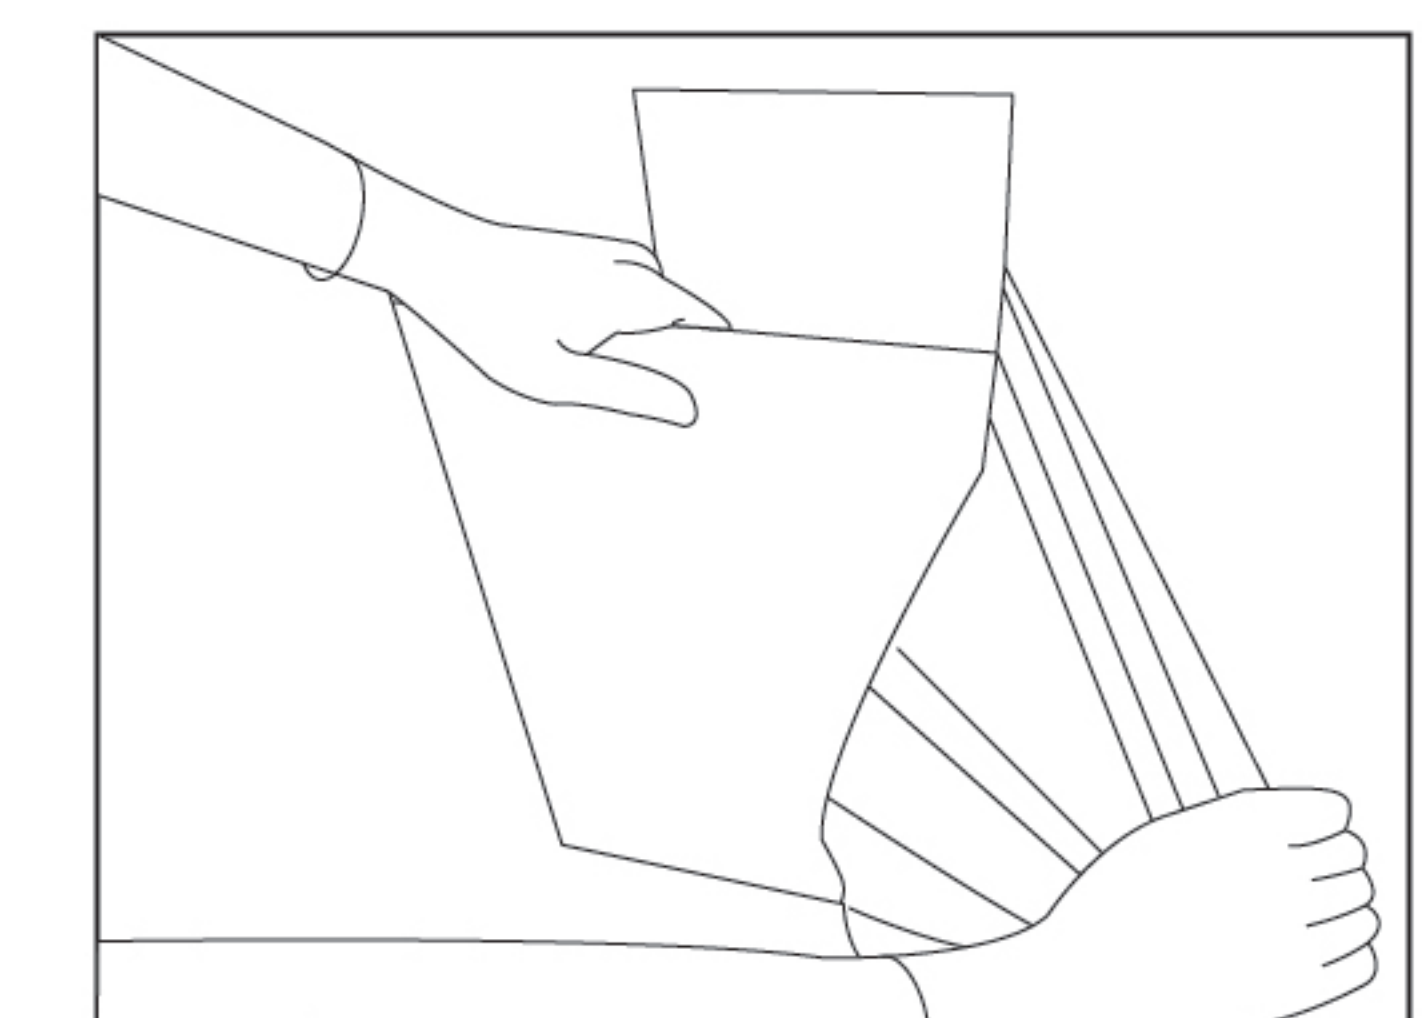

fig13
9. Tear the films: tear off the protective films of the fan cover and the decorative cover; Cautions: wear protective gloves; (fig13)